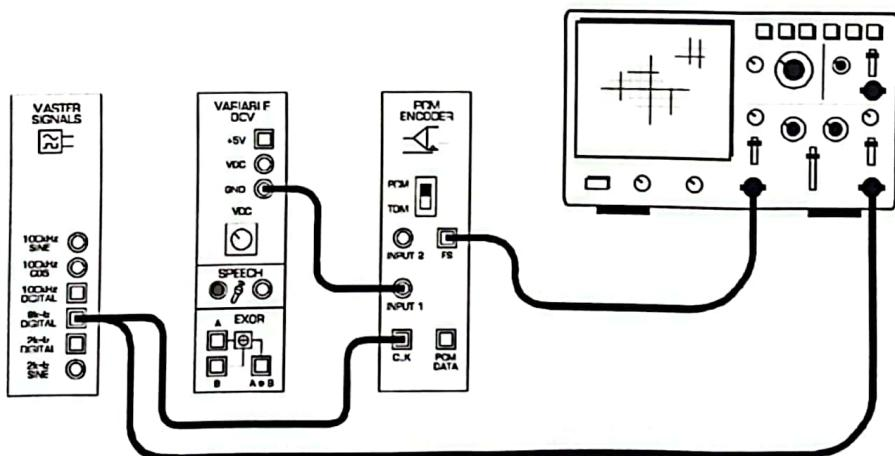
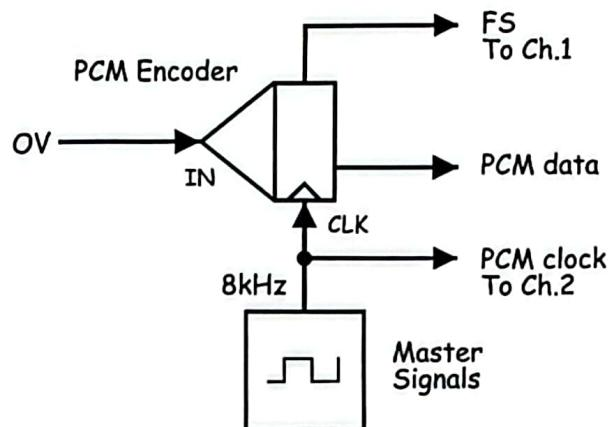

Figure 2
Figure 3
4. Connect the set-up shown in Figure 2 below.
The set-up in Figure 2 can be represented by the block diagram in Figure 3 below. The PCM Encoder module is clocked by the Master Signals module's 8kHz DIGITAL output. Its analog input is connected to 0V DC.